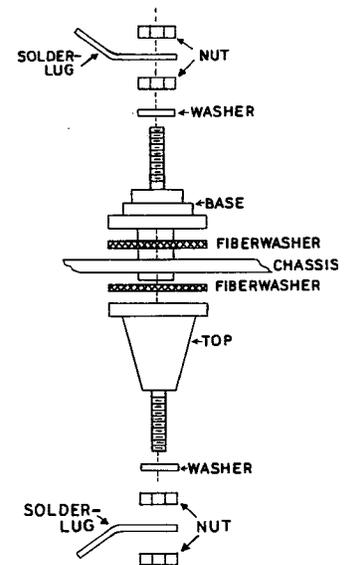

Figure 4
- () Mount the two ceramic feedthrough insulators by disassembling and remounting according to the exploded view through the 5/16" holes at each end of the 3/4 x 2" hole. See Figure 4 and Pictorial 1. Maintain the longer cone end on the top of the chassis.